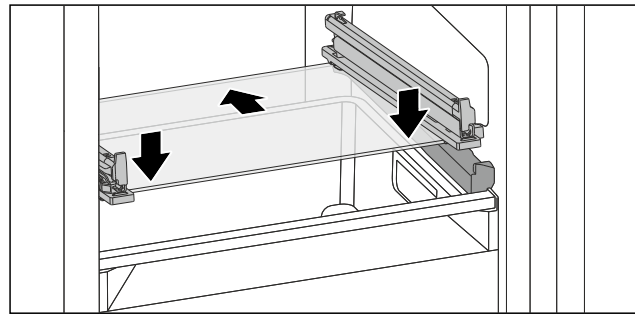

Fig. 121 Tilting drawer glass shelf
- ▶ Position glass shelf at an angle behind the stoppers. (see Fig. 121)